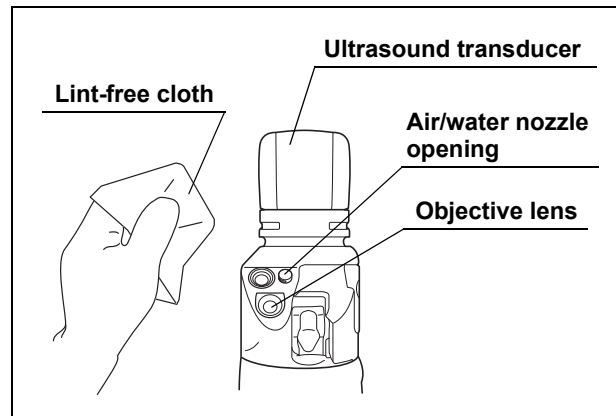

Figure 7.26
2. With the endoscope immersed, use a soft brush or lint-free cloth to thoroughly brush or wipe all external surfaces of the endoscope. Pay particular attention to the air/water nozzle opening and the objective lens, and ensure that all surfaces of the distal end are thoroughly cleaned (see Figure 7.26).